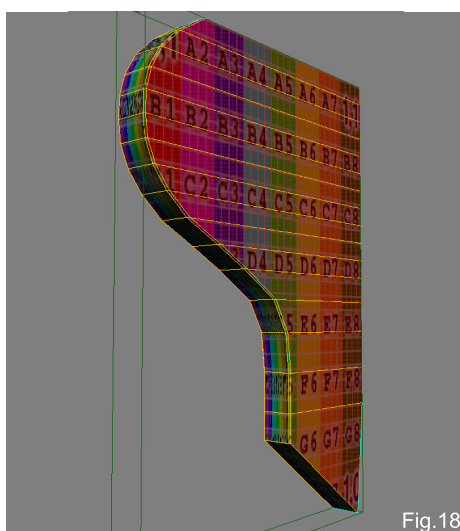

Fig.18
The UVs are condensed all together, creating some clutter. In this way, we cannot spot the stretching problem and fix it, so we need to make things clearer and create some sort of order in the UVs. Go back in the viewport and switch to the raycast polygon selection mode (U) and select all the polygons from one side of the mesh (Fig.18).